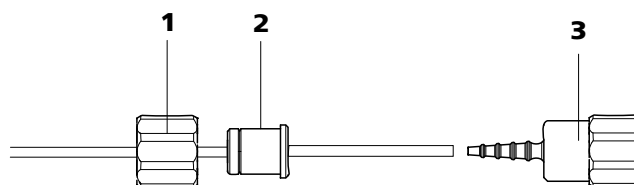

Figure 7 Install pump tubing connection without filter
- **Case B:** a 6.2744.160 pump tubing connection **without filter** (see Figure 7, page 19).